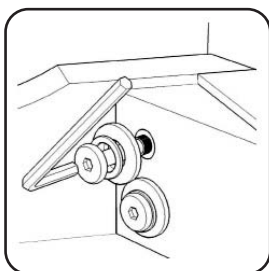

Figure 4
Attach Back Frame (F) to the unit with Flat Washers, Spring Washers, Head Cap Bolts (short), Head Cap Bolts (long) and Wood Screws, tightening the bolts only halfway. (See Figures 4 and 5)